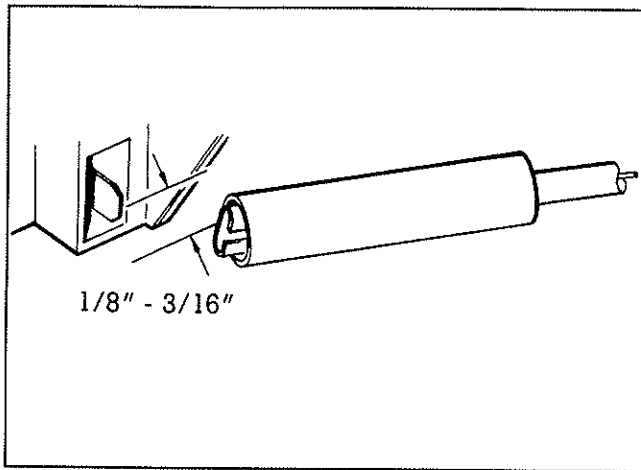

Figure 23. Pulling Ignition Wire from Ignition Control to look for Spark
2. If there is no spark, pull the ignition wire from the ignition control and hold the bare terminal 1/8" to 3/16" from the ignition stud with a pair of insulated pliers. (See Fig. 23). If no spark jumps this gap, check for 24 volts between the yellow and brown wires on the left side of the ignition control. If no voltage is read, refer to "High and Low Voltage step-by-step Checkout."